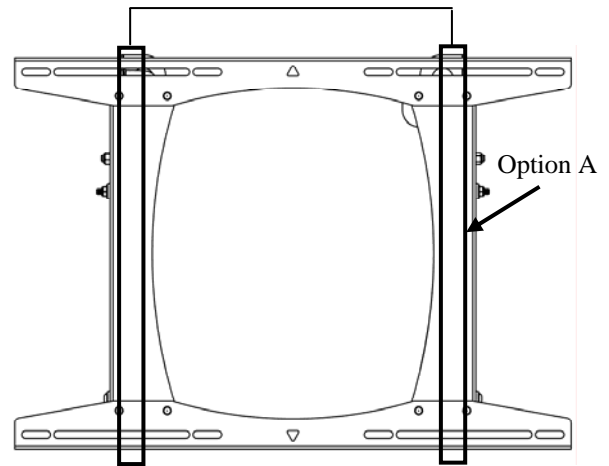

Figure 5. Mounting Holes – 16" Apart on Center (Option A)
1. Holding the PRO against the wall, select the pair of mounting holes that best suits your situation (see Figures 5, 6, and 7).
- **Option A.** Install four 5/16" x 2 1/2" lag bolts and four 5/16" washers (two top and two bottom) into the mounting holes, centering the PRO on dual wood studs 16" apart on center as shown in Figure 5.